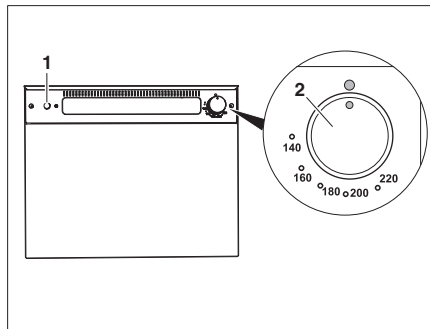

Fig. 316 Gas oven (Thetford)
- Gently press the control knob (Fig. 316,2) and turn left to any position.
- Press the ignition switch (Fig. 316,1) repeatedly until there is a flame.
- Turn the control knob (Fig. 316,2) to "O". The flame fades.